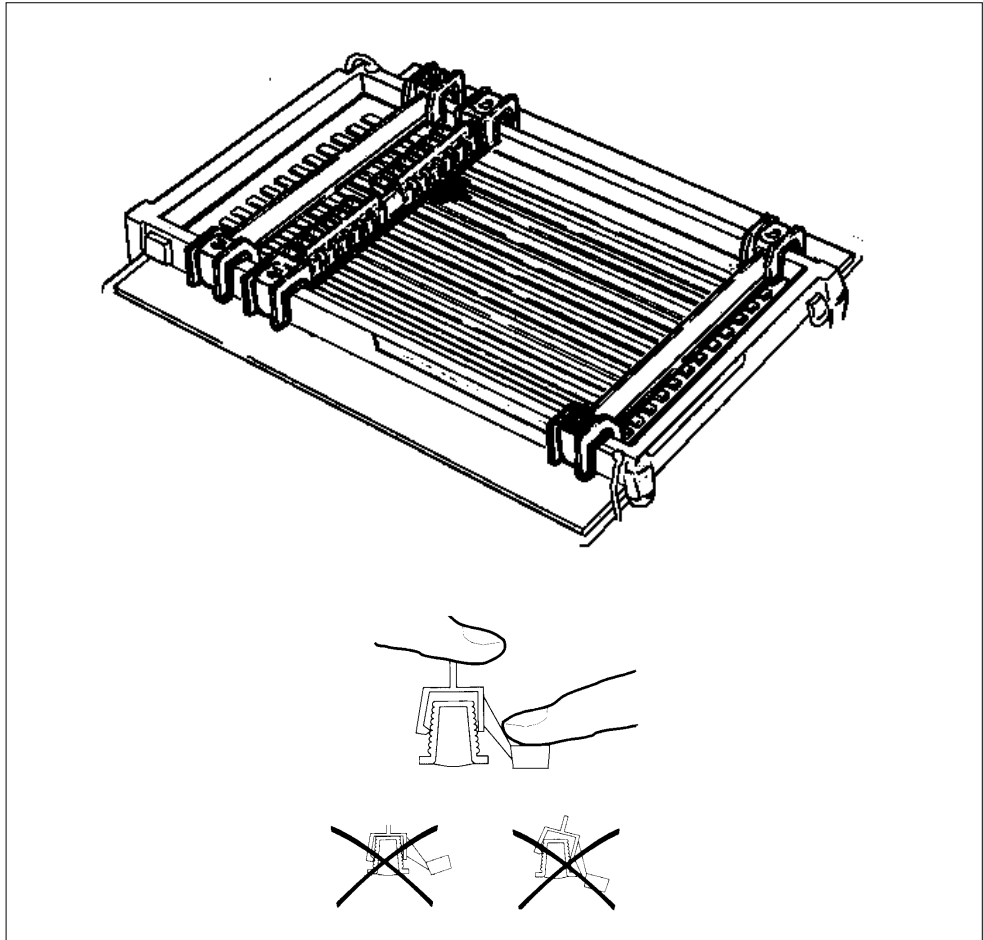

Fig. 17.
- Move the sample cups into position, one sample cup above each Immobiline DryStrip, and finally press the sample cups down to ensure good contact with each strip. (Fig. 17).